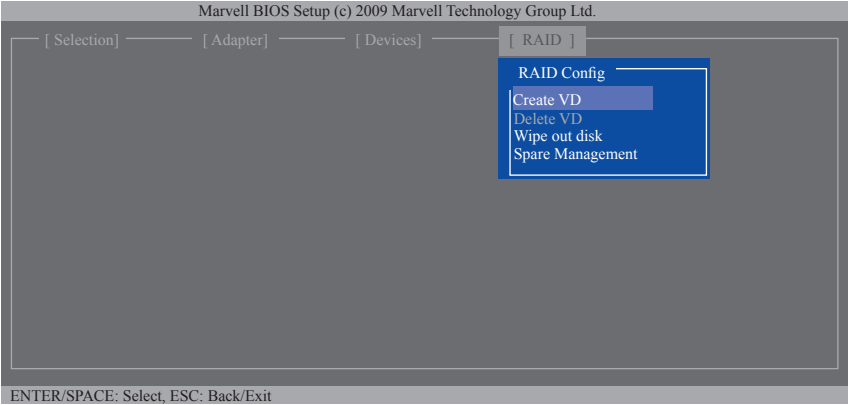

Figure 4
Step 1: On the main screen, press <Enter> on the **RAID** tab. Then the **RAID Config** menu appears (Figure 4). Press <Enter> on the **Create VD** item.